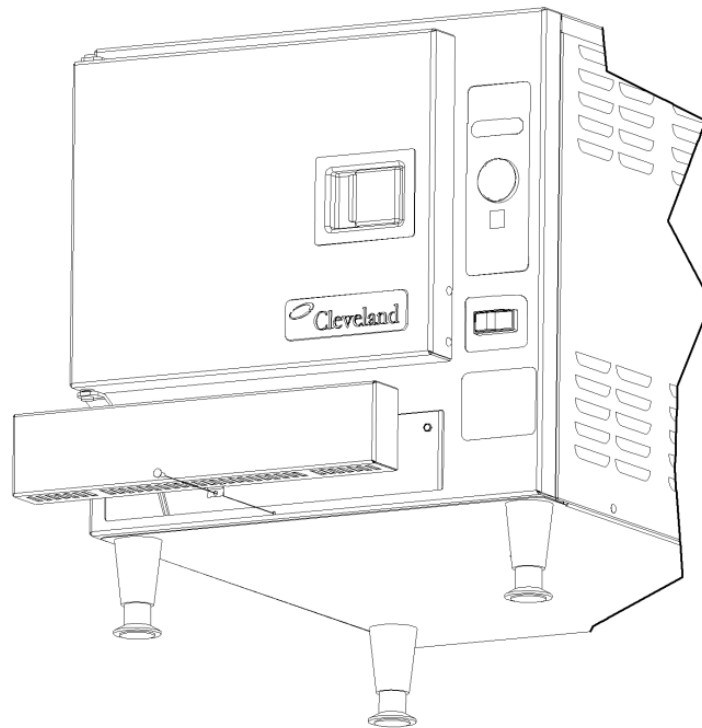

Figure 7-1
Step 4: When the SteamChef is cool, install the Front Burner Cover and secure it with the provided screws. See Figure 7-1.